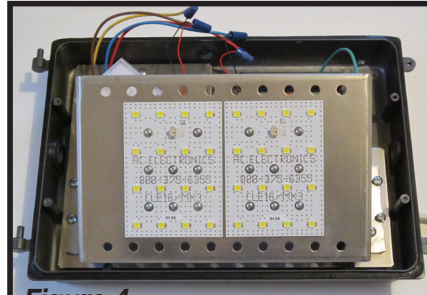

Figure 4
- 4) Attach kit bracket to fixture case using the **3** #8-32 x 3/8" mounting screws for the QSSI WP15 or the **5** #10-24 x 3/8" mounting screws for the Grandlite SM106. Be certain all screws are present and tightly screwed down. When complete, the seated kit inside the fixture should appear as in FIGURE 4.